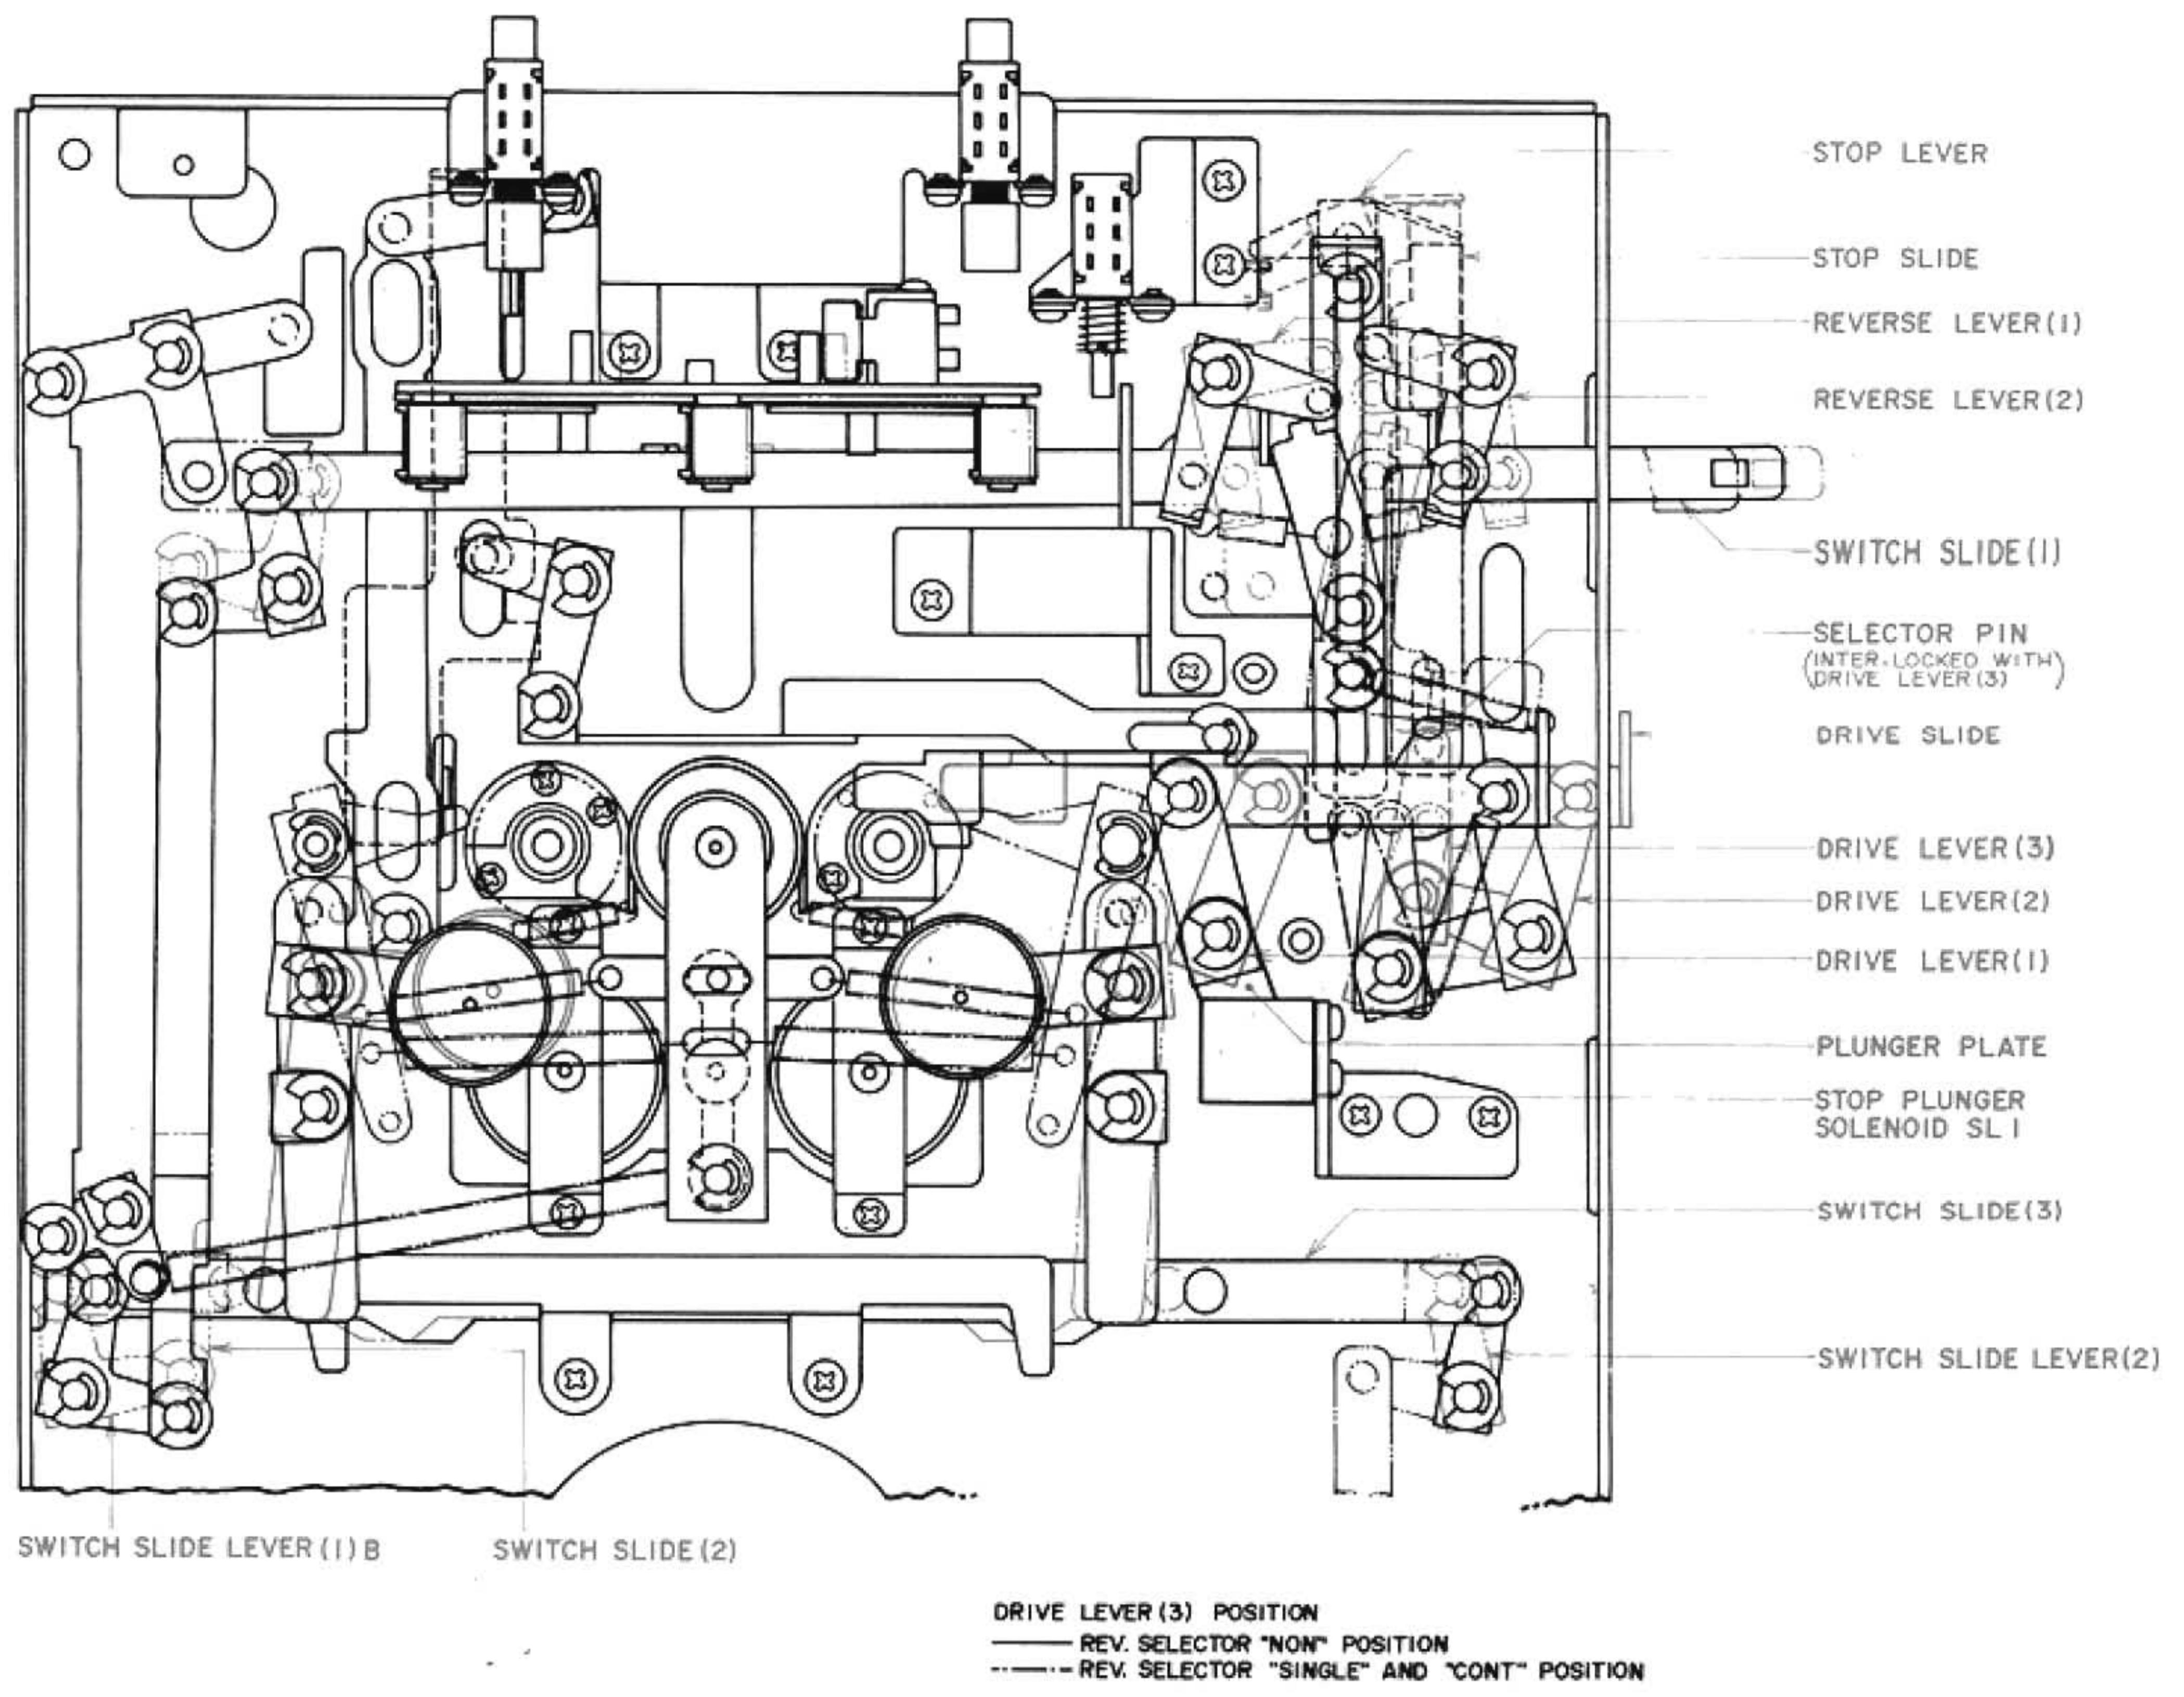
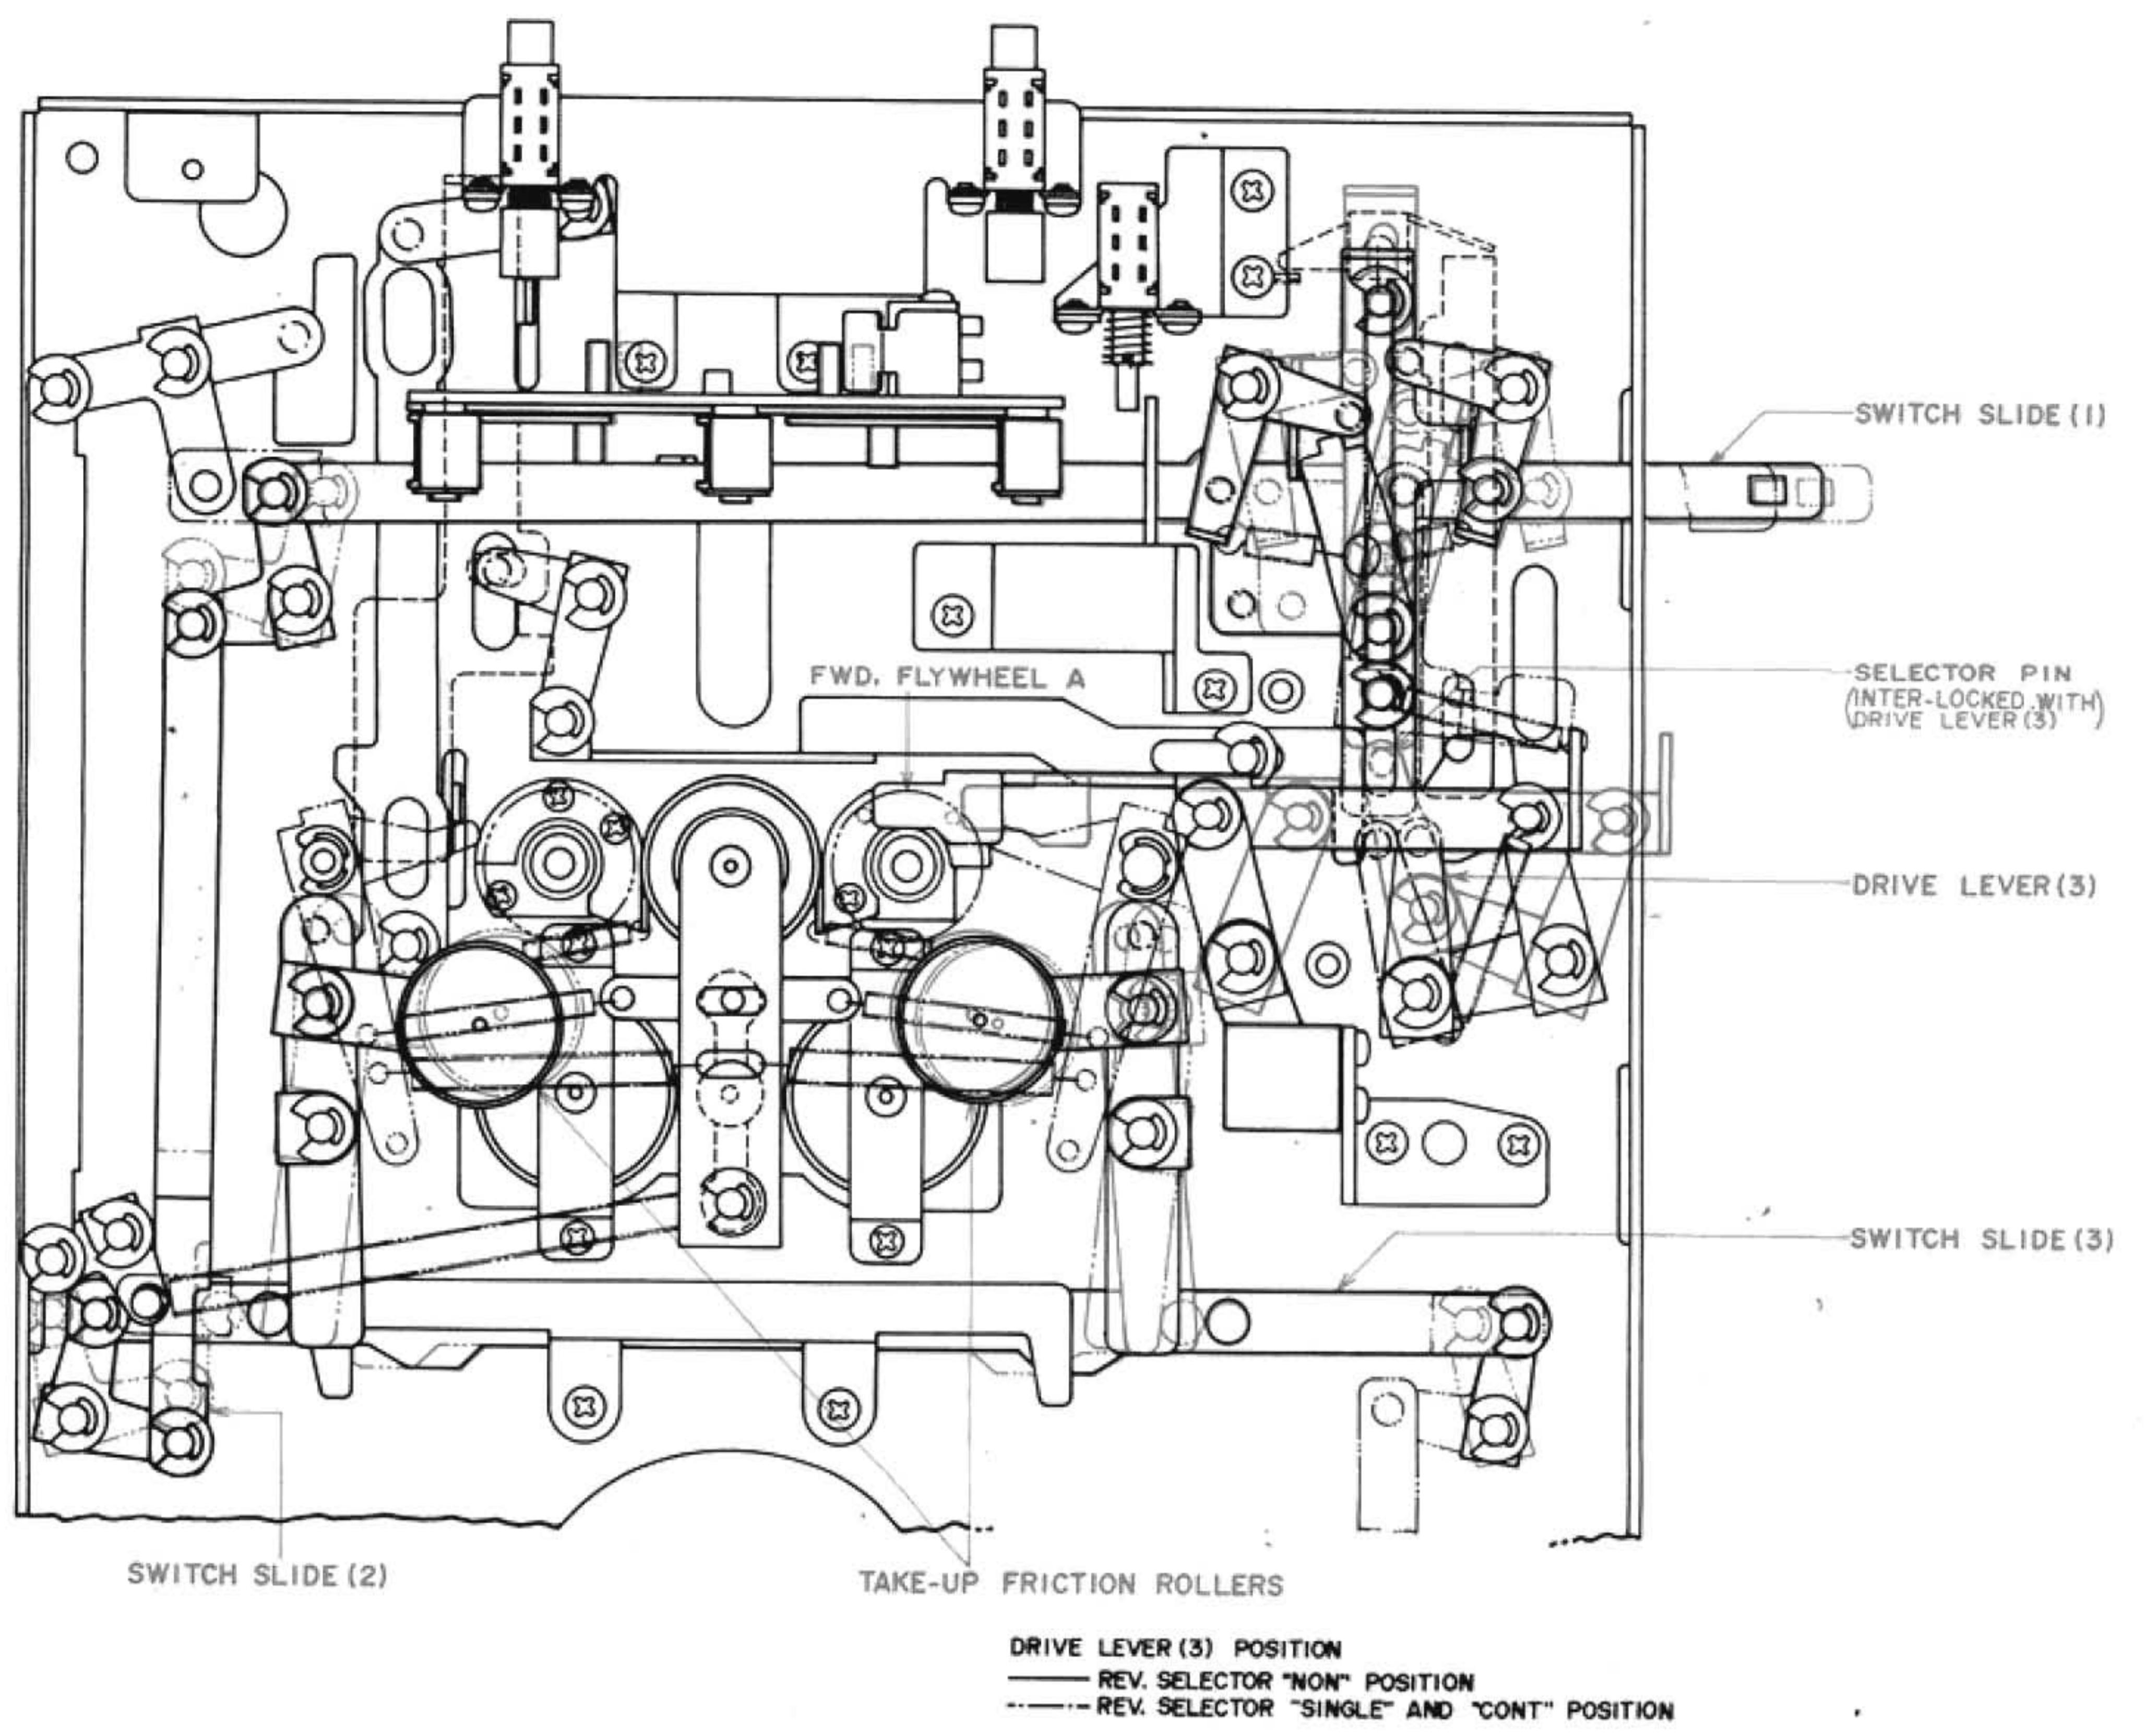

Fig. 31 Reverse Selector : NON → From REV to STOP Operation
Fig. 33 Reverse Selector : CONT From REV to FWD Operation
(Refer to Figs. 31 and 37)
- b) At this time, as shown in Fig. 31 drive lever (3) must move further to the right than in the case of FWD playback. (This is because as shown by the reverse side, Fig. 31, the head plate slide and mode slector operation by menas of the switch is the result of this movement to the right). This operation is for the purpose of not allowing drive lever (3) selector pin to depress the reverse slide.
- d) When this happens, drive levers (2) and (3) which are interlocked with the drive slide work as shown in Fig. 31 and drive lever (3) selector pin kicks the stop slide and the kicked stop slide depresses the stop lever, causing the Keyboard Block to release and the machine to release and the machine to enter STOP mode from REV mode.
- c) When set to REV recording or playback mode, drive lever (3) selector pin is brought to and stabilized directly above the stop slide by means of the Mode Selector (Refer to Fig. 31).
- d) When REV tape travel ends, drive lever (3) selector pin depresses the stop slide and the Keyboard Block is released.
- 4) REV → FWD → REV (Refer to Fig. 33)
- a) When REV mode was effected from FWD mode as shown in Fig. 33, drive lever (3) selector pin moved to directly above the reverse slide. At the end of REV mode, when continuous kick operation begins the selector pin depresses the reverse slide and switch slides and switch slides (1), (2), and (3) change to FWD position.
- * Movement of slide switches (1), (2), and (3) is indicated by the --- line in Fig. 33.
- b) Switch slides (1), (2) and (3) operate the head plate slide and the head is lowered, thus effecting FWD mode.